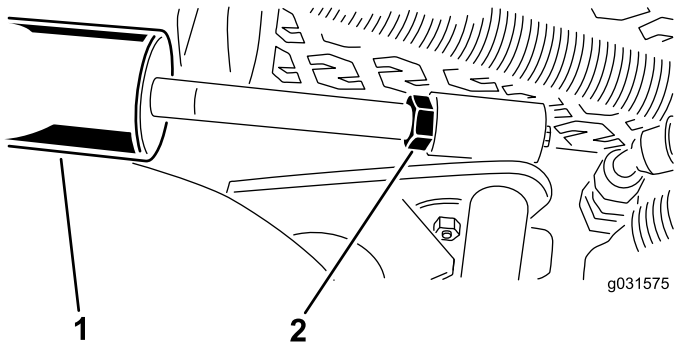

Figure 17
- A. Lower the cutting units and back off the jam nut on the cylinder (Figure 17).